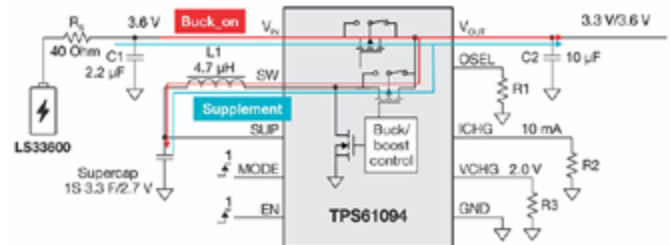
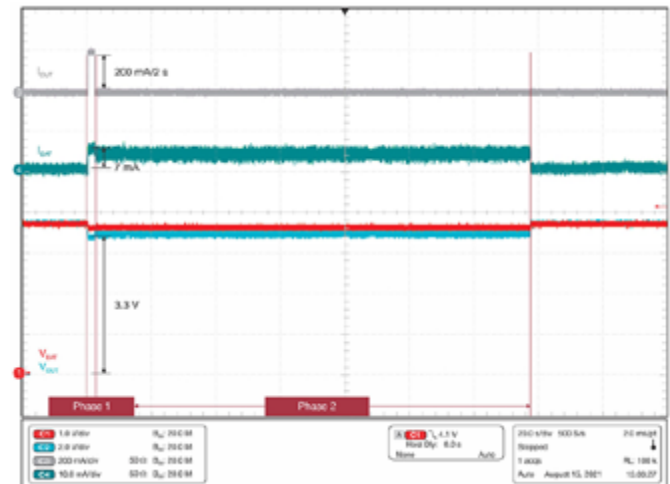

Figure 1: Configuration of the TPS61094
Figure 2: Oscilloscope result of battery peak current at heavy load
- **Limits the peak current drawn from the battery.** The TPS61094 can limit its peak input current when it is working in Buck_on mode when charging the supercapacitor, and also in supplement mode when it is supplying a heavy load on VOUT with the battery. Figure 1 illustrates the configuration of the TPS61094, while Figure 2 shows the battery's peak current when there is a 200-mA and 2-s load pulse on VOUT. In phase 1, where the load is heavy, the peak current is limited to 7 mA. After the load is released in phase 2, the device is charging the supercapacitor with a 10-mA constant current. When the supercapacitor voltage charges back to 2.0 V, the device stops charging but still stays in Buck_on mode.